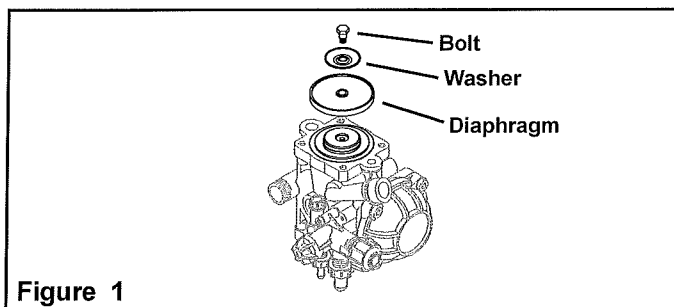

Figure 1
3. Remove the bolt securing the diaphragm (see Figure 1).
4. Remove the old diaphragm and the washer (see Figure 1).